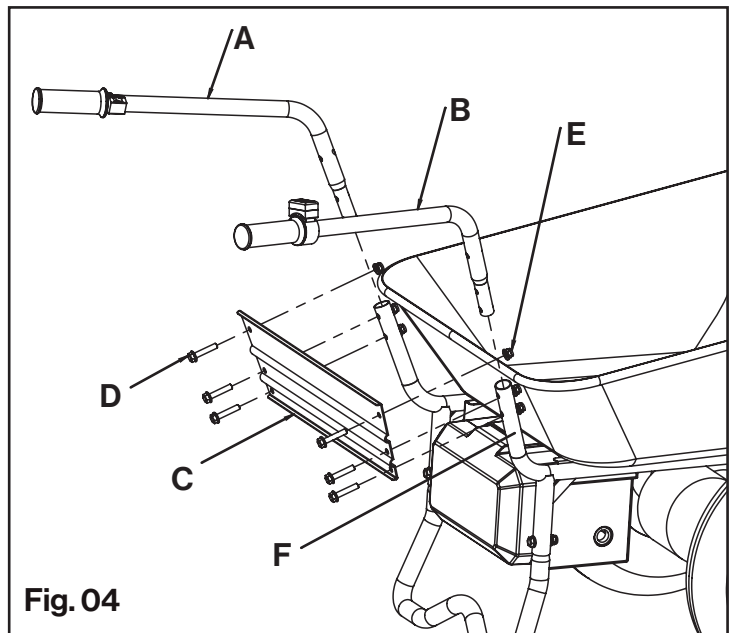

Fig. 04
3.4 Fix the left handle-bar(A), the right handle-bar(B) and the handle-bar connecting plate(C) on bucket bracket(F) with three bolts M8x40(D) and three nuts M8(E). When installing, first insert all M8X40 bolts into the fixing holes, and then fix the nuts. (See Fig.04)